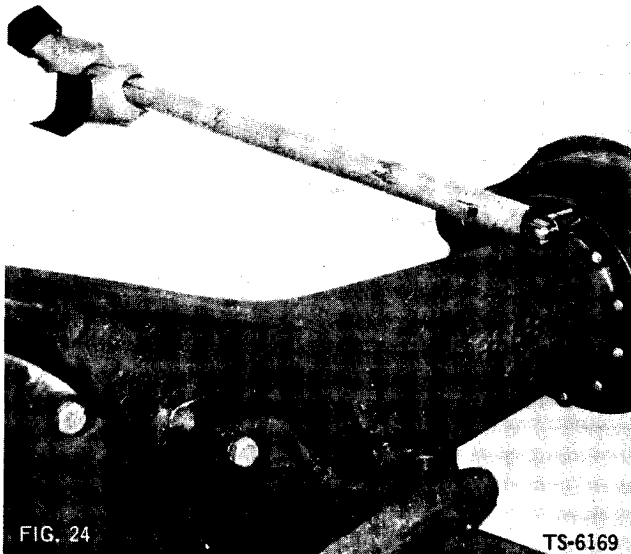

FIG. 24
24. Remove mounting bolts and washer securing spindle and brake spider to axle housing (Fig. 24).